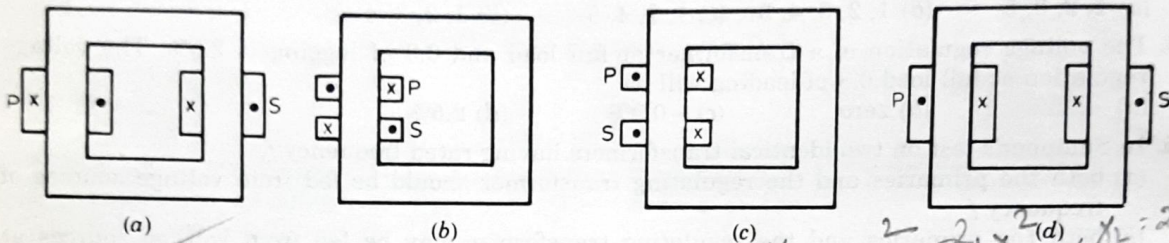

Fig. C.49.
94. The relative current directions through the primary (P) and secondary (S) of a 1-phase transformer connected to a resistive load on the secondary side, are indicated in the various cross-sectional views given in Fig. C.49. Which of these are correct representations ?